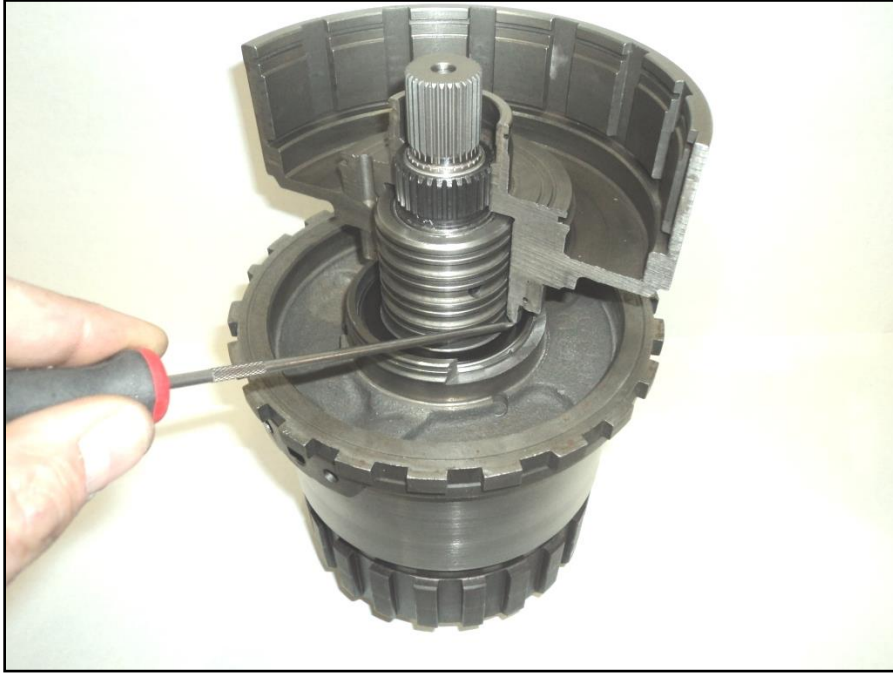

FIGURE 6-92
2. A bearing pocket is machined at the bottom of the snap ring boss recess and fit with a thrust bearing, permitting the grounding of the direct clutch housing to the center support. See Figure 6-92. The pocket is machined to a depth of .375" measured from the front face of the boss and to an inside diameter of @ 2.125" and an outside diameter of @ 2.875".